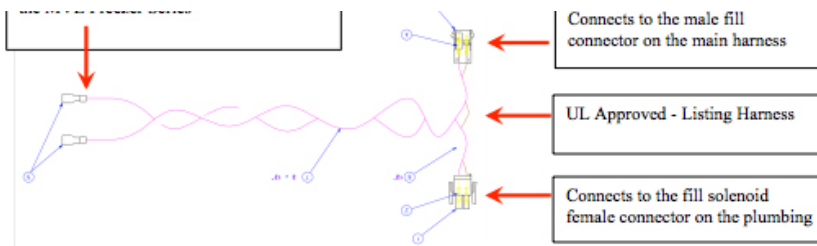

Figure 5. UL Approved-Listing Harness
**A:** Chart's UL-Approved harness is hardwired in series with the fill valve circuit from the TEC 3000 main harness fill solenoid connector and to the lid switch. When the lid is opened this electrically opens the fill circuit and interrupts the fill (See Figures 5 & 6).